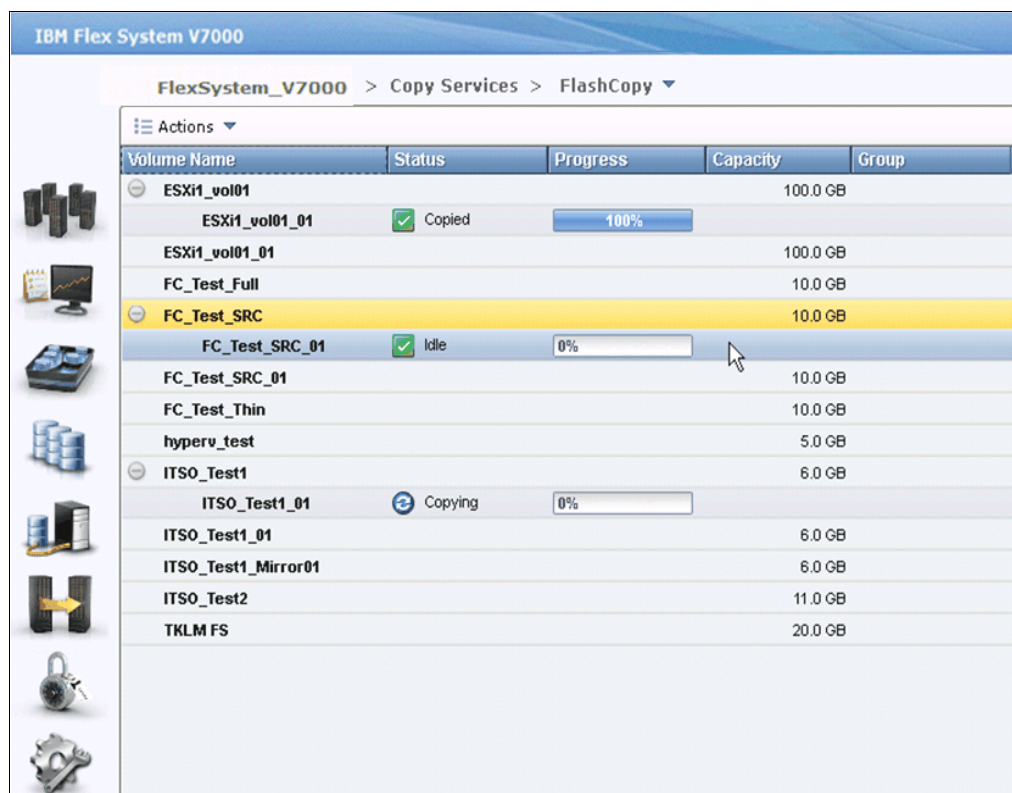

Figure 9-24 New FlashCopy mapping has been created with a new target
- f. Click **Finish** when you make your decision, and the FlashCopy mapping is created on your volume with a new target (Figure 9-24). The status of the newly created FlashCopy mapping is Idle; it could be started, as described in “Starting a FlashCopy mapping” on page 367.